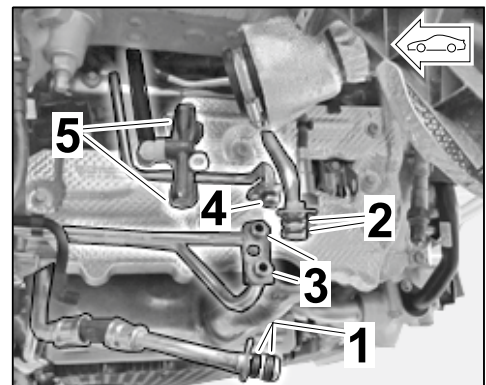

Figure 24
- 3.2 Replace all seals and O-rings on the lines for the turbocharger (cyl. 1–3 ⇒ *Figure 24*/cyl. 4–6).